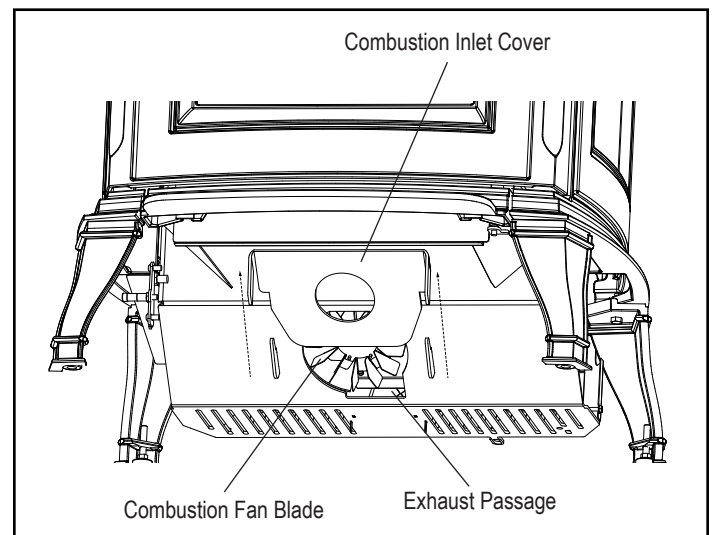

Figure 2.6
The combustion inlet cover is located behind the ash pan that must be removed to properly clean the combustion fan blade. Figure 2.6.
- Remove combustion inlet cover by pulling up on cover. This allows access to the combustion fan blade and exhaust path. Figure 2.6.
- Clean exhaust passage. Figure 2.6.